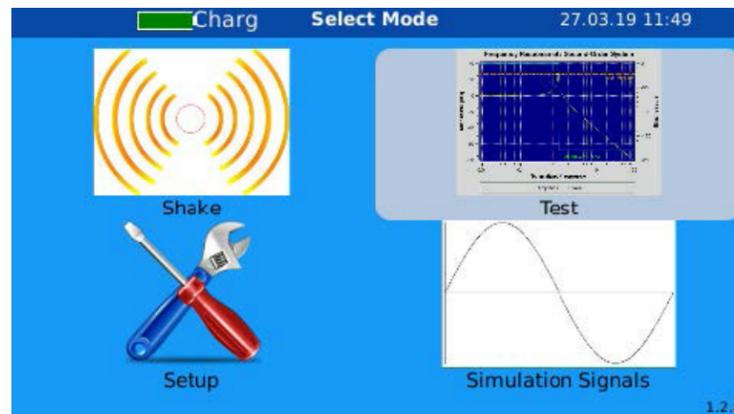

Figure 80. Choose "Test" from the main menu
4. Select **Test** from the main menu (*Figure 80*).